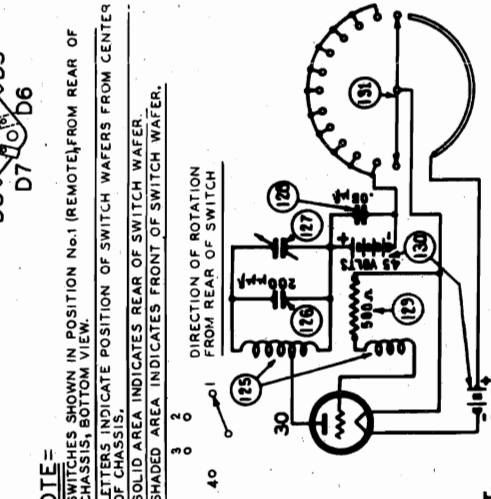

FIG. 3. WIRELESS REMOTE CONTROL UNIT SCHEMATIC DIAGRAM.
2. Now bring the wireless remote control unit close to the receiver. Using a padding wrench, Philco Part No. 3164, tune the compensator (127) Fig. 3, located on the bottom of the remote control unit until a maximum voltage reading is indicated on the vacuum tube voltmeter. When tuning this compensator, it should be done very slowly so as not to pass over the frequency to which the control amplifier is tuned.
3. After adjusting the compensator with the sensitivity control on the receiver in the "extreme" position, the remote control unit is adjusted for maximum sensitivity by setting the sensitivity control in the "near" position and placing the remote control unit a few feet away from the receiver. The compensator (127) Fig. 3, is then adjusted again for maximum voltage reading of the vacuum tube voltmeter.